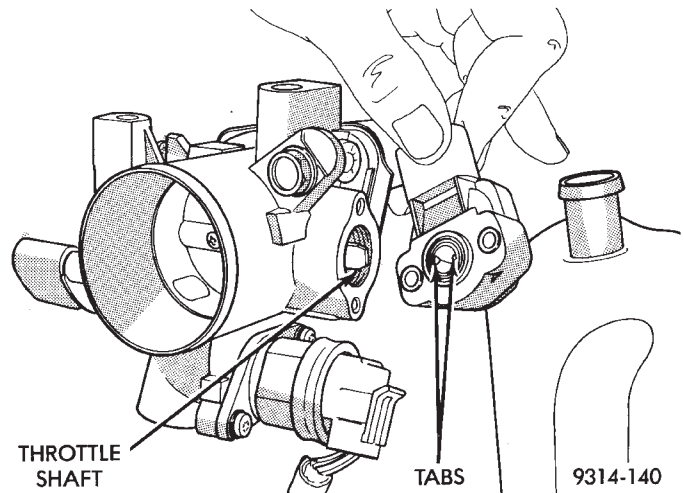
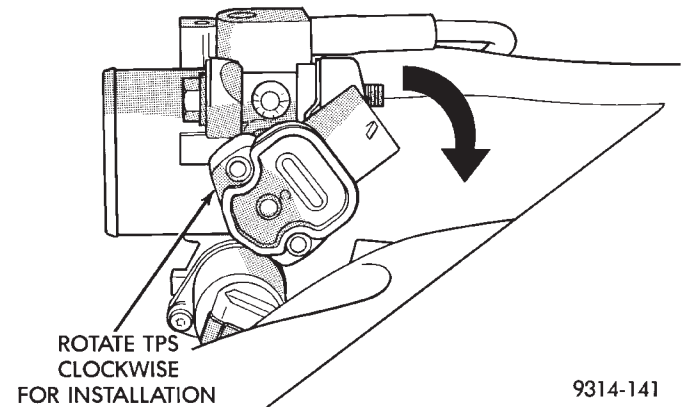

Fig. 61 Throttle Position Sensor Installation—3.3L Engine
Fig. 62 Rotate TPS Clockwise For Alignment—3.3L Engine
(1) The throttle shaft end of the throttle body slides into a socket in the TPS (Fig. 61). The socket has two tabs inside it (Fig. 62). The throttle shaft rests against the tabs. When indexed correctly, the TPS can rotate clockwise a few degrees to line up the mounting screw holes with the screw holes in the throttle body. The TPS has slight tension when rotated into position. If it is difficult to rotate the TPS into position, install the sensor with the throttle shaft on the other side of the tabs in the socket. Tighten mounting screws to 3 N•m (25 in. lbs.) torque.